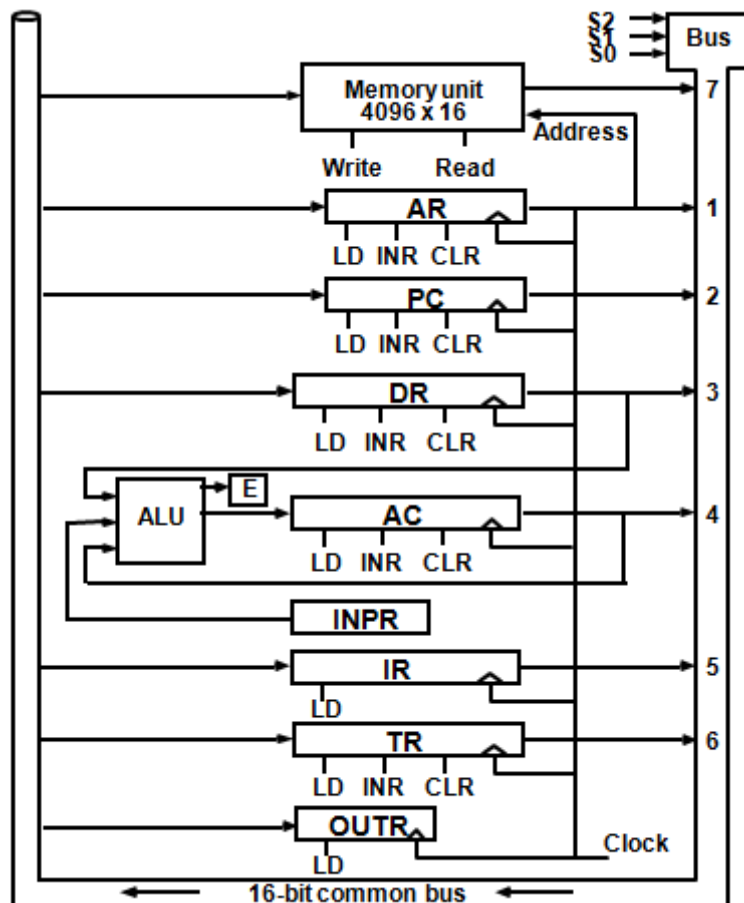

Figure 2.5: Basic computer registers connected to a common bus
- The connection of the registers and memory of the basic computer to a common bus system is shown in figure 2.5.